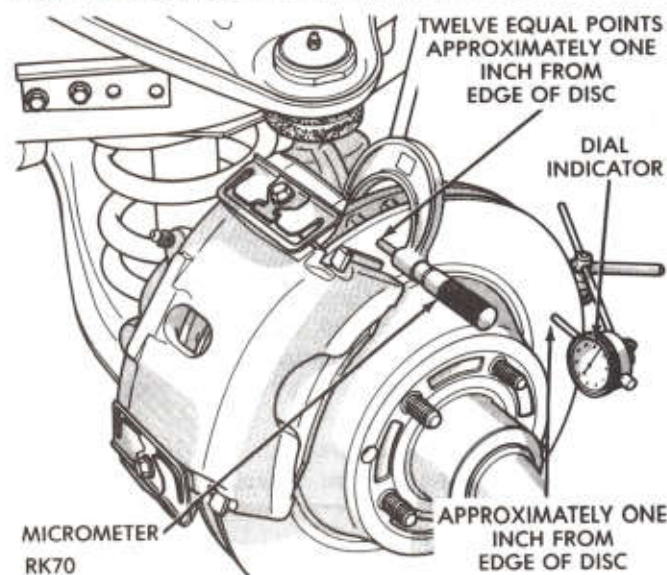

Fig. 1—Checking Brake Disc for Runout and Thickness
(1) Mount dial indicator C-3339 on steering arm with plunger contacting disc approximately one (1) inch (25.4mm) from the edge of the disc (Fig. 1).
(2) With wheel bearings adjusted to zero end play, check lateral runout (both sides of disc). Runout should not exceed specifications in the following chart.
specifications, disc should be removed and resurfaced or a new disc and hub assembly installed (Fig. 1).